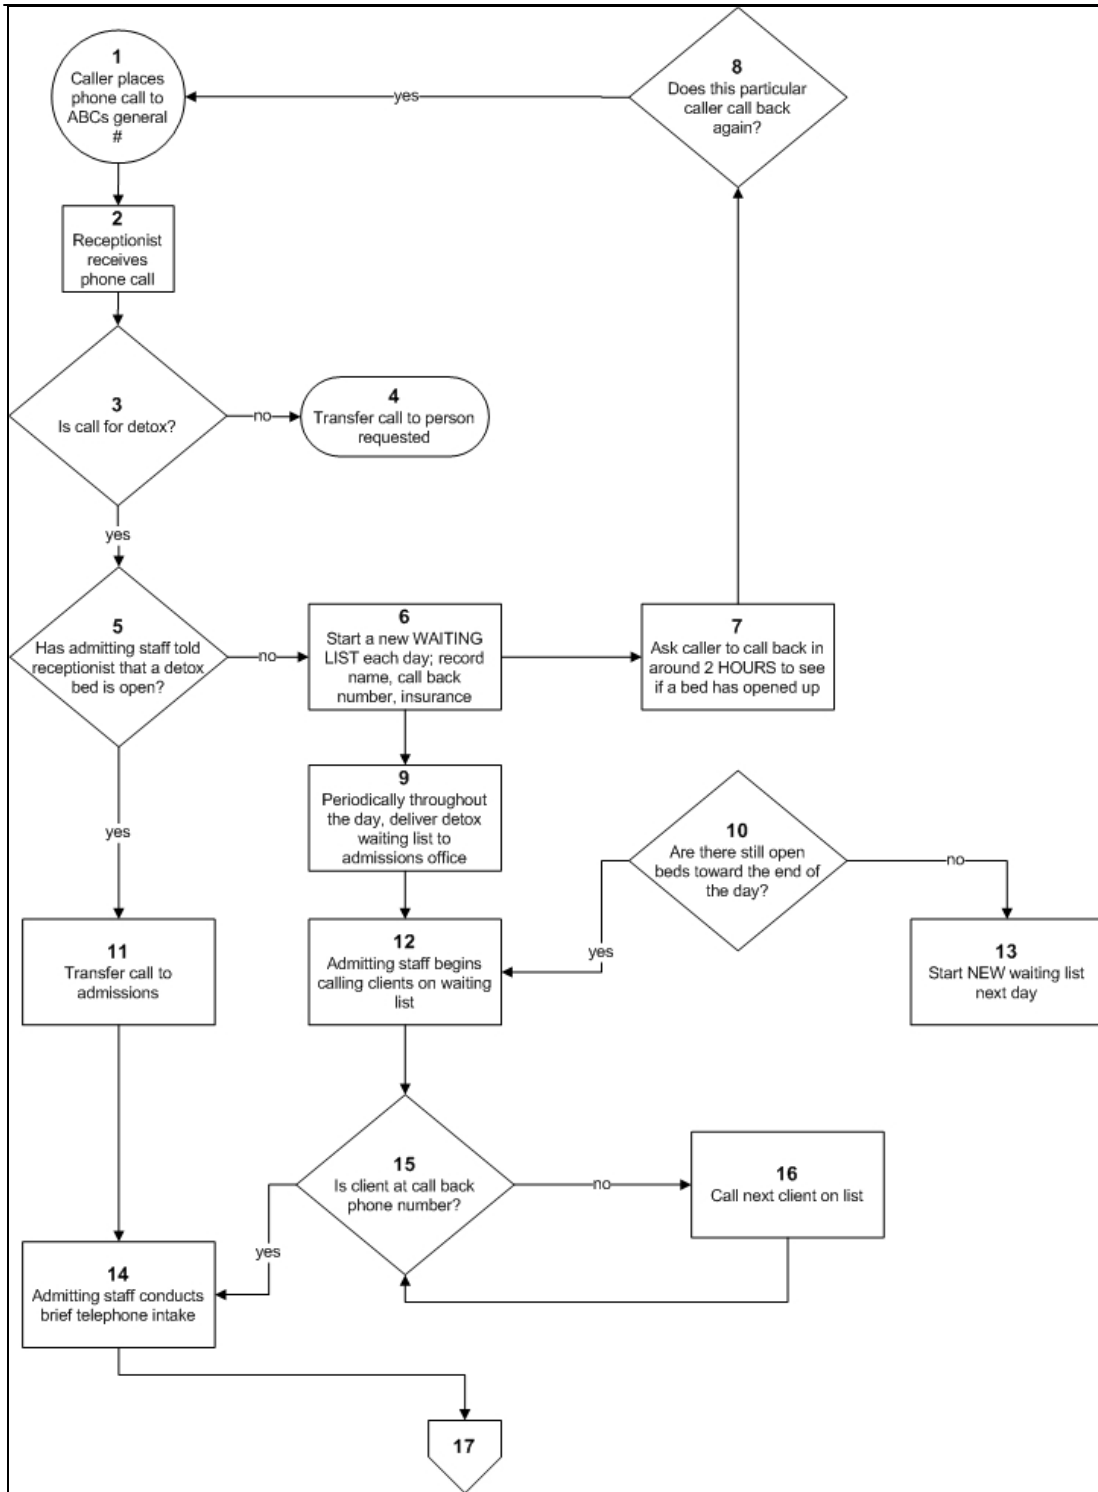

FIGURE 2a: ACCESS FLOWCHART FOR DETOX PROGRAM AT ABC RECOVERY (NODES 1-17)
- **Number flowchart items** for easy reference. As seen in the flowcharts in FIGURES 2a and 2b, numbering each node makes it easier to understand and troubleshoot the process.